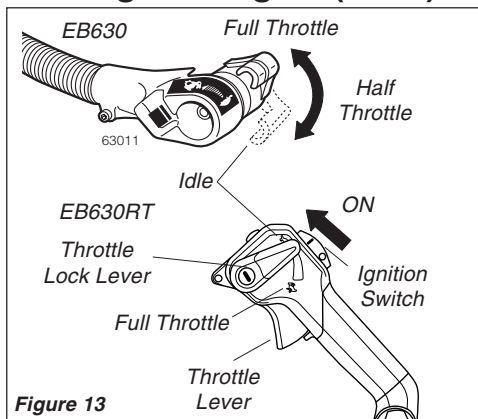

Figure 13
RT model: Slide the ignition switch to the "I" (ON) position, then depress the throttle lever half way and lock throttle by moving throttle lock lever halfway down. See Figure 13.